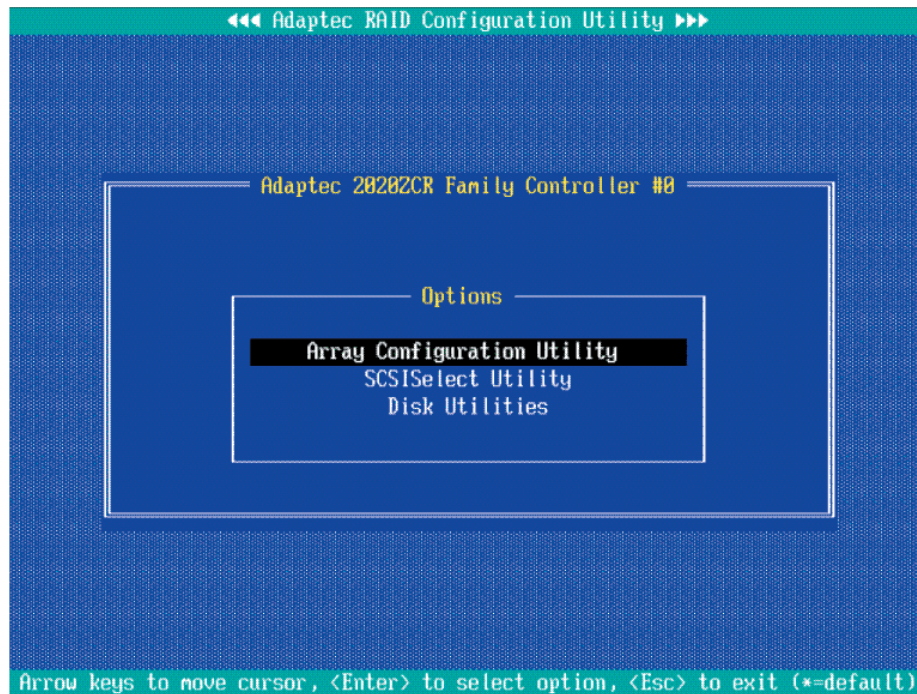

Figure 3.1 The RAID Configuration Utility Main Menu
1. Select "Array Configuration Utility" from the RAID Configuration Main Menu (Figure 3.1), and press <Enter>. The Array Configuration Main Menu will display as shown on the next page:
2. From the RAID Configuration menu (Figure 3.1), select "Array Configuration Utility" and press <Enter>. The Array Configuration Utility Main Menu (Figure 3.2) will display.
2. From the RAID Configuration menu (Figure 3.1), select "Array Configuration Utility" and press <Enter>. The Array Configuration Utility Main Menu displays as shown below:
2. From the RAID Configuration menu (Figure 3.1), select "Array Configuration Utility" and press <Enter>. The Array Configuration Utility Main Menu (as shown above) will display.